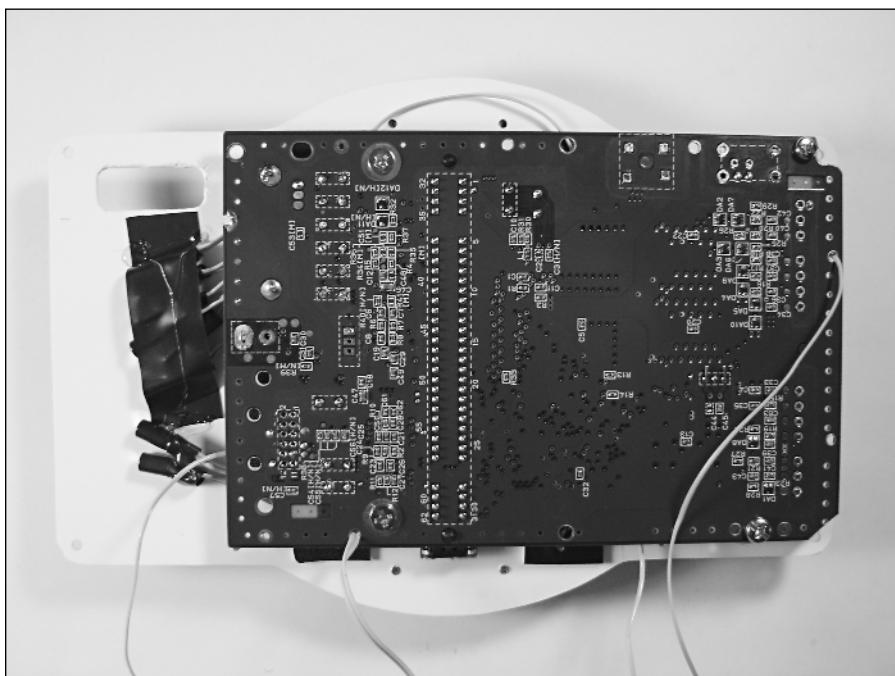

FIGURE 10-32: The SNES board screwed to the rear plate.
5. You can now use four computer case screws to attach the SNES board to the rear plate, as shown in Figure 10-32. Make sure you get all the loose wires out from under it, including the battery wires. There are lots of holes in the SNES board, so if you want you can snake the wires through some of them. The capacitors that you rewired in Chapter 9 should all go to one side, as shown.
Use hot glue or electric tape to get the capacitors out of the way, as shown in Figure 10-32 previously.